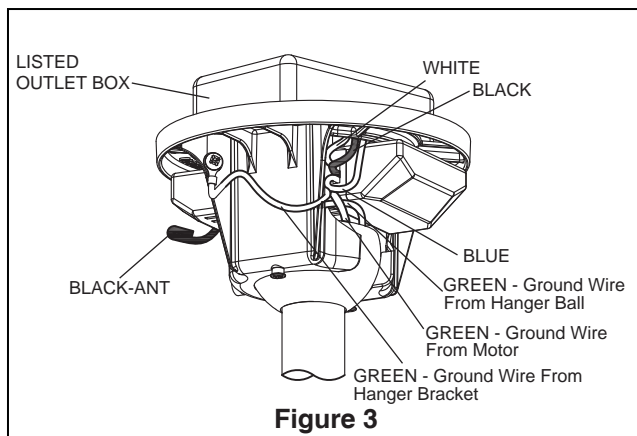

Figure 3
2. After connections have been made, turn leads upward and carefully push leads into the outlet box, with the white and green leads to one side of the box and the black leads towards the other side. The wires should be spread apart with the grounded conductor and the equipment-grounding conductor on one side of the outlet box and the ungrounded conductor on the other side of the outlet box (Figure 3).